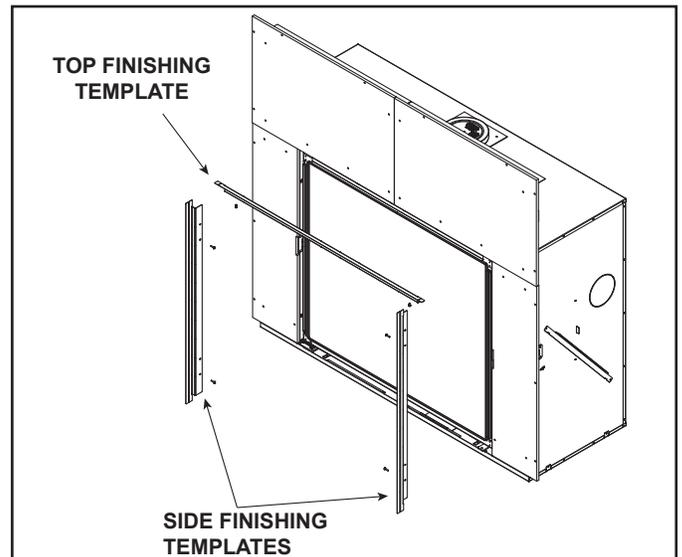

Figure 10.4 Top and Side Finishing Template Locations
1. Locate the four threaded inserts on the inside edge of the fireplace and secure the side templates with the Phillips screws provided. See Figure 10.4.